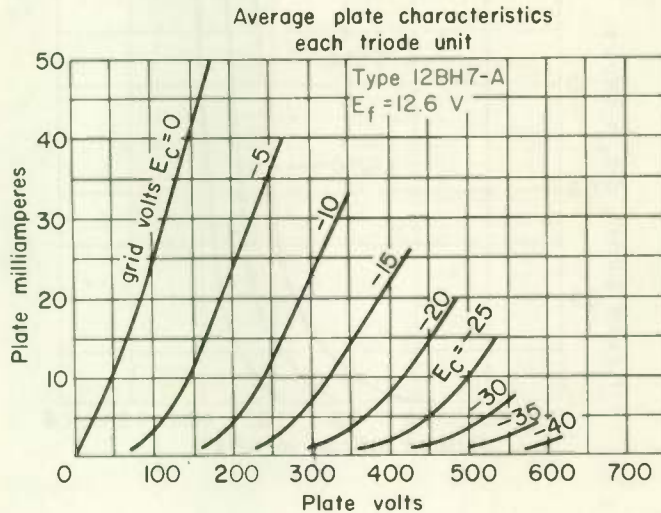

Fig. 34
18. The curve for $E_g = -5 \text{ V}$ in Fig. 34 is
- (1) a linear curve.
(2) a linear curve for values of plate voltage between 150 and 250 V.
(3) a linear curve for plate voltage values above 50 V.
(4) nonlinear throughout its length.
19. For the tube type 12BH7-A, the curves of which are given in Fig. 34, what is the plate current if the grid bias voltage is -10 V and the plate voltage is 300 V?